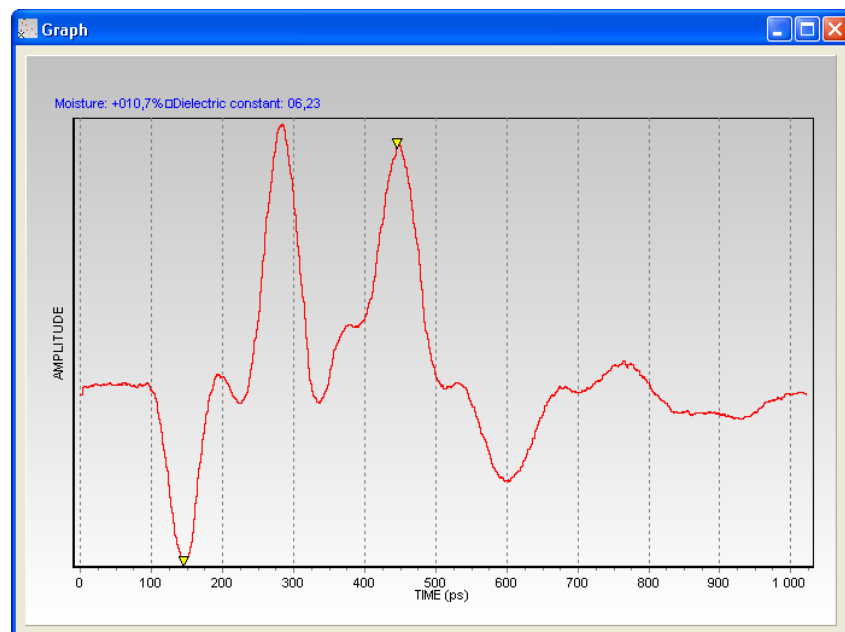

Fig. 8. TDR reflectogram from FP/mts probe connected to FOM/mts device controlled by *ET USB Communicator*
- measurement moisture, salinity (electrical conductivity), temperature and displaying the received reflectogram (Fig. 8),
- probe length defining the coaxial cable length between the device and the TDR sensor and fixing in time the beginning of the TDR sensor on the cable (i.e. the first negative reflection presented in Fig. 8),
The handheld device is asked to perform the moisture measurement. It takes about 1 second to complete the measurement. During the process the user is asked not to disconnect the USB cable from the handheld device. It is most advised not to move the probe in the measured sample in order to receive reliable results. After this time the result is received and displayed in the Program Log field in the program main window. The reflectograms used to calculate the moisture value for LP/ms and FP/mts probes are displayed in new windows (Fig. 8 and Fig. 8, respectively).
The received data are displayed in the **Program Log** field in the FOM/mts window in the following order: probe temperature, salinity, and moisture. The reflectogram graph used to calculate the moisture value during the TDR method is also displayed in a new window. The marked points on the reflectogram graph represent the time distance, which is the base for the calculation of the soil water content (Fig. 8).
Graph window opens after the moisture measurement is complete (Fig. 8). It contains the reflectogram graph used to calculate the moisture value. The marked points on the reflectogram graph represent the time distance, which is the base for the calculation of the soil water content.